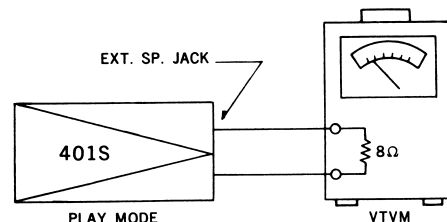

Fig. 17
Measuring Circuit: Refer to Fig. 17.
- As shown in Fig. 17, connect VTVM to Extension Speaker Jack of Model RQ-401S and terminate with 8 Ω Resistor.